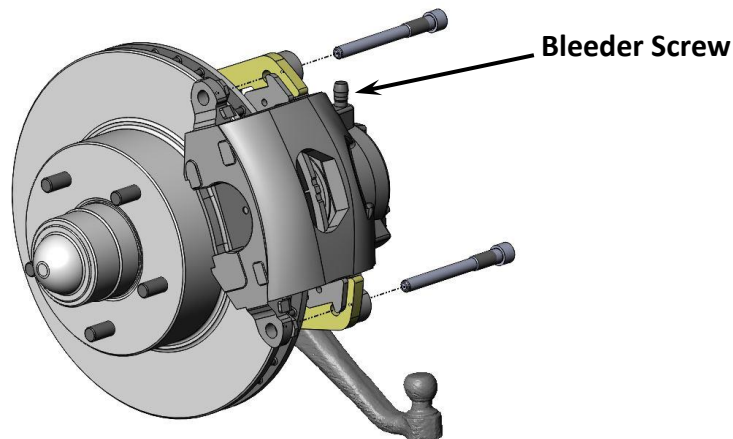

Figure 7 – Caliper Installed
10. Mount the caliper to the caliper mounting bracket. With the pads installed in the caliper, slide the caliper over the rotor and line up the mounting ears of the caliper with the holes in the caliper mounting bracket. Tighten and torque the bolts to 45 ft/lbs. **NOTE:** When installing the calipers, make sure the brake bleeders are pointing upward. See Figure 7 below for reference.